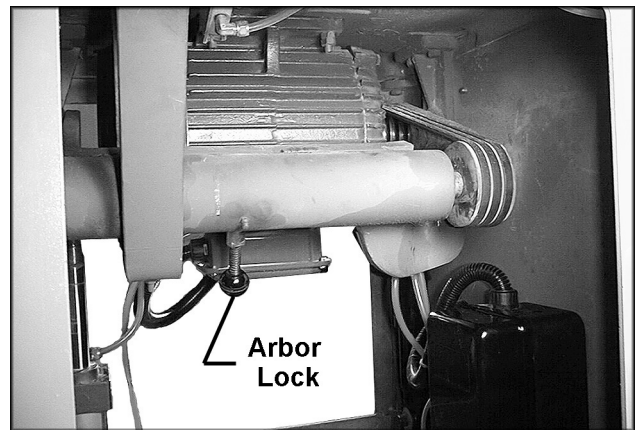

FIGURE 8
4. Lock the arbor by pulling the lever (Fig. 8).